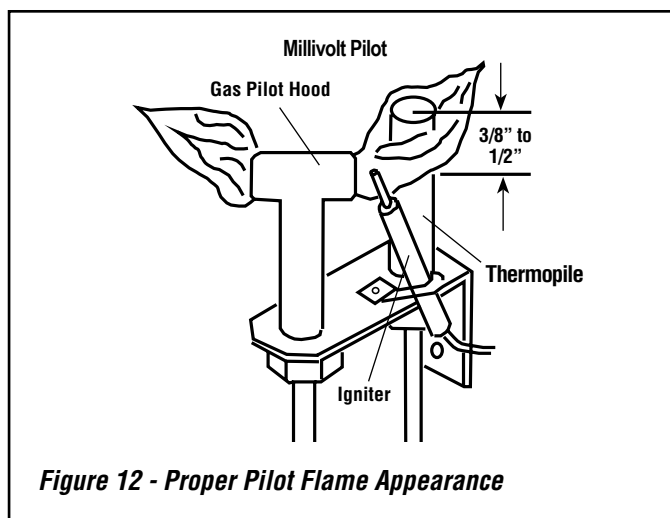

Figure 12 - Proper Pilot Flame Appearance
Step 12. Light the appliance per the lighting instructions label on appliance (when viewing the insert from the front, it is located behind the right side door, on the right) or lighting instructions on **Page 13** in the *Installation and Operation Manual*. Inspect for proper pilot and burner flame appearances. See *Flame Color and Behavior* on **Page 14** and *Inspect The Pilot System For Proper Flame* on **Page 16** in the *Installation and Operation Manual*. Also see **Figures 12 and 13**.